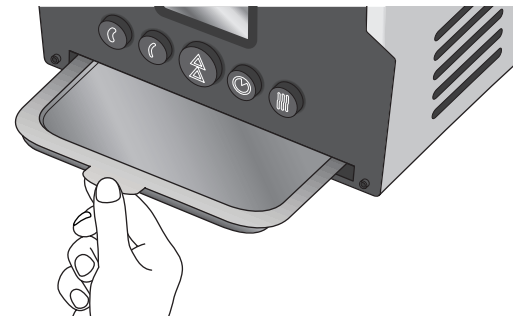

Fig. 3: Removing the fat tray
1. Pull the fat tray completely out of the unit (fig. 3) and dispose of its contents with your domestic refuse.